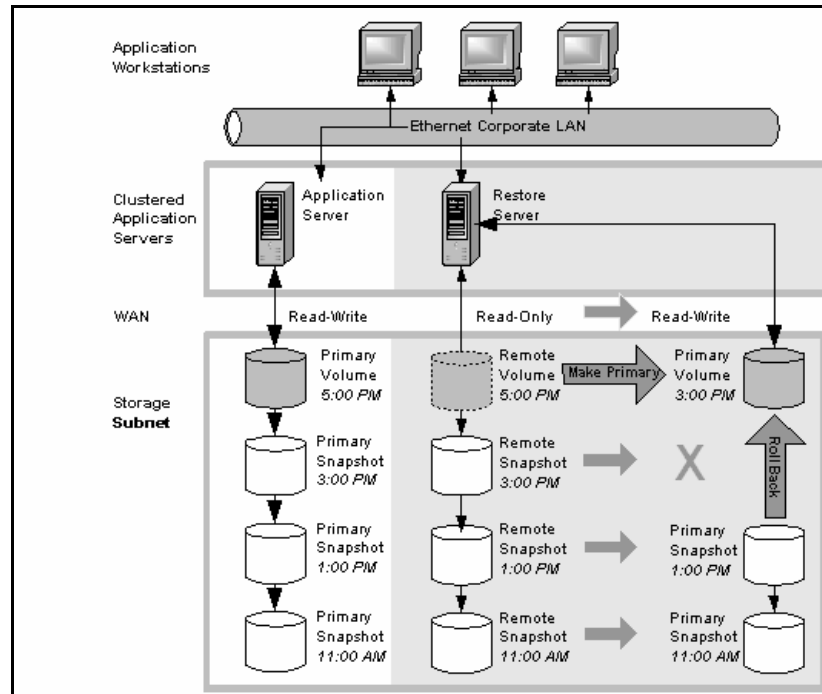

Figure 267. Non-destructive Rollback from the Remote Snapshot
- To roll back the remote snapshot, you must first make the remote volume into a primary volume. This will stop scheduled creation of remote snapshots, which may jeopardize your high availability, disaster recovery, or routine backup strategies. Figure 267 shows rollback of the remote snapshot.